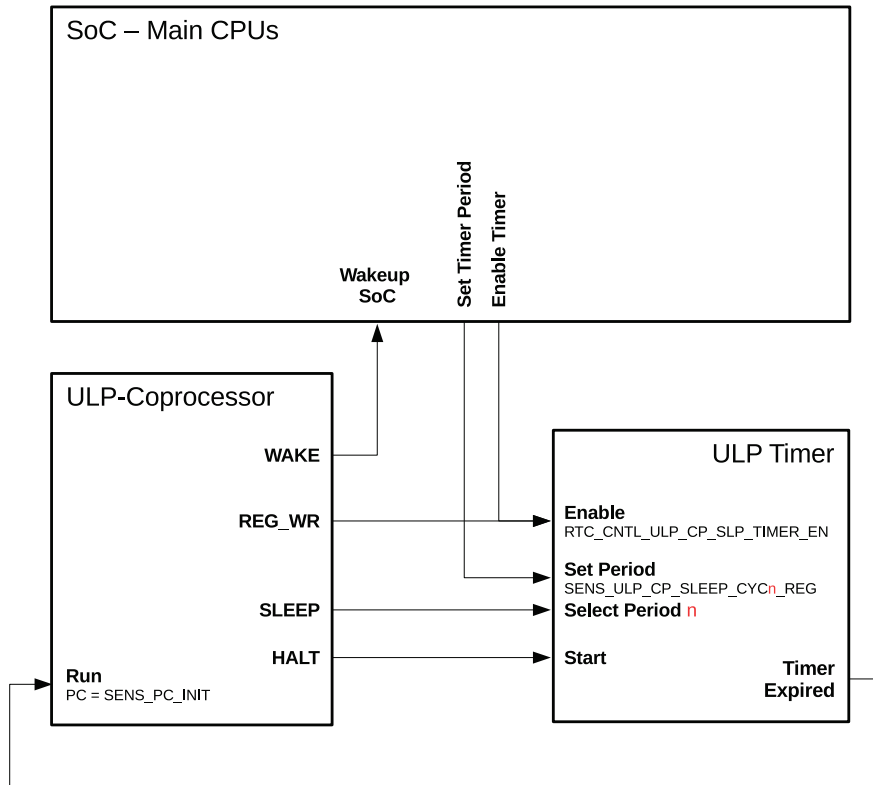

Figure 158: Control of ULP Program Execution
The ULP co-processor puts itself into sleep mode by executing the HALT instruction. This also triggers the ULP timer to start counting RTC\_SLOW\_CLK ticks which, by default, originate from an internal 150 kHz RC oscillator. Once the timer expires, the ULP co-processor is powered up and runs a program with the program counter (PC) which is stored in register SENS\_PC\_INIT. The relationship between the described signals and registers is shown in Figure 158.